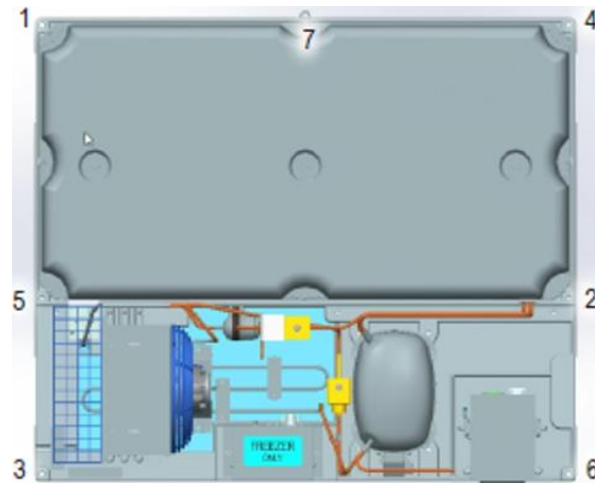

Figure 3: PRU Torque Order
8. Attach the PRU to the display case using the 7 mounting bolts provided. Torque the bolts using a cross pattern (See Figure 3)
2. Remove 7 mounting bolts in opposite order as shown in Figure 3, releasing the PRU from the case.